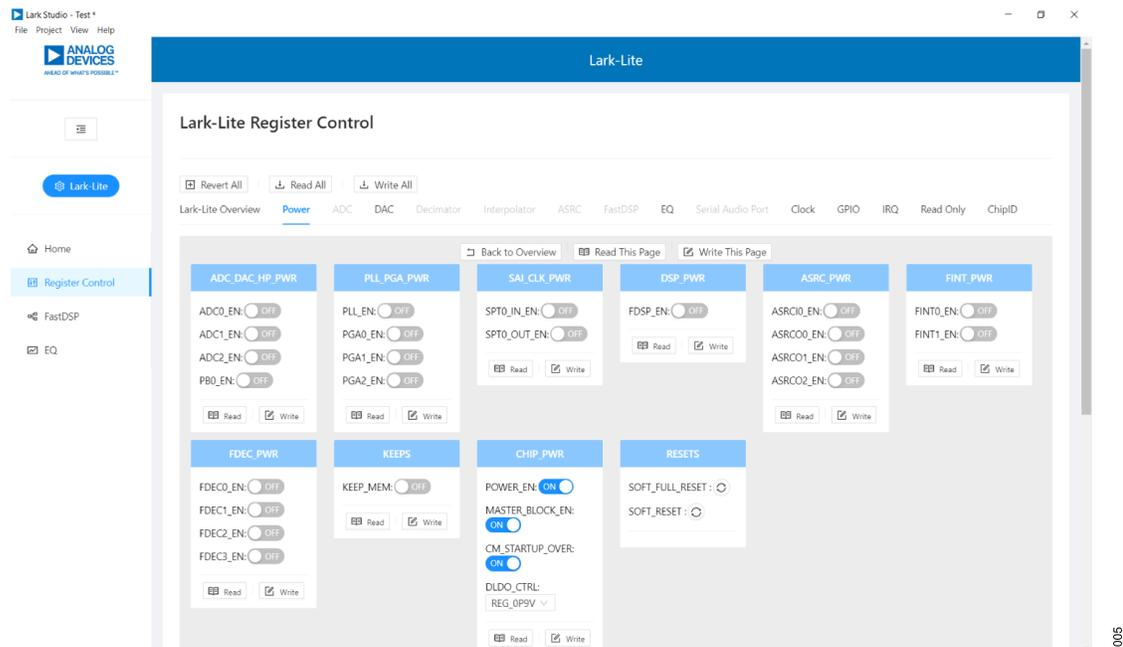

Figure 5. Register Configuration
Configure the **Register Control**, **FastDSP**, and **EQ** settings on the left navigation panel. **Lark-Lite Register Control** has multiple tabs that control different sections of the ADAU1850. Figure 5 shows the **Power** tab, which allows the user to power up or power down various blocks within the ADAU1850. When a block is powered up, that block can be configured.
1. Enable **POWER_EN**, **MASTER_BLOCK_EN**, and **CM_STARTUP_OVER** in the **CHIP_PWR** block in the **Power** tab by clicking the **OFF** button to switch to **ON** (see Figure 5).